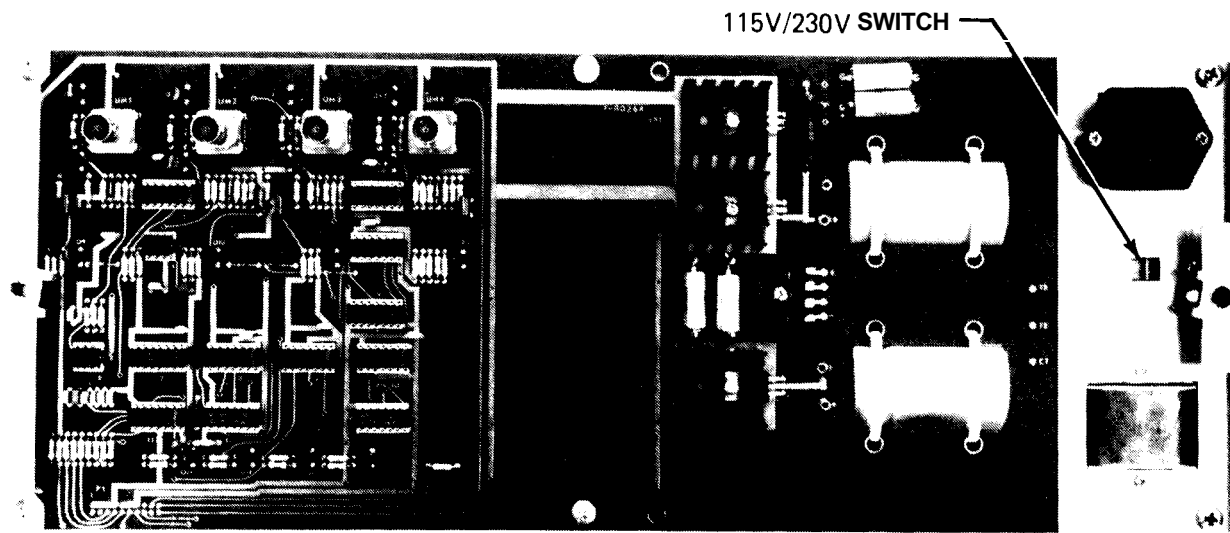

Figure 2-1. Remote Control Unit Power Selector Switch
2. Set remote control power selector switch (figure 2-1 ) to either 115V or 230V.